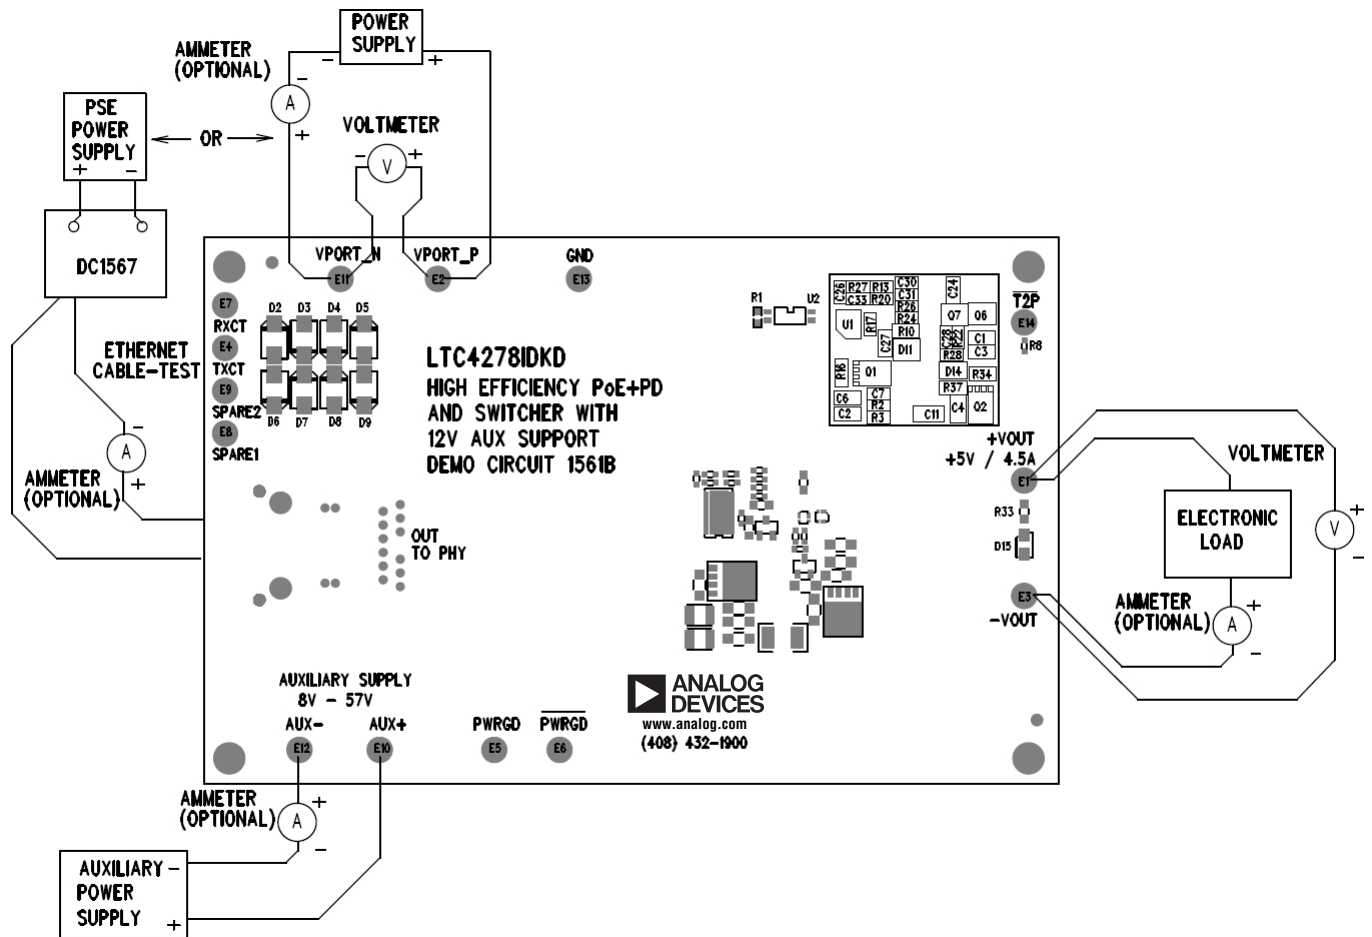

Figure 1. Proper Measurement Equipment Setup
Demonstration circuit 1561B is easy to set up to evaluate the performance of the LTC4278 in a PoE+ PD application. Refer to Figure 1 for proper equipment setup and follow the procedure below:
- a. Connect a PoE+ capable PSE, like the DC1567, with an Ethernet cable to the RJ45 connector, J1. See Figure 1.
- b. Or, connect a 37V to 57V capable power supply (Power Supply in Figure 1) across VPORT_P and VPORT_N.
- c. Or, if evaluating the auxiliary power supply capability, connect a 9V to 57V at 4A capable power supply across AUX+ to AUX- (Auxiliary Supply in Figure 1).